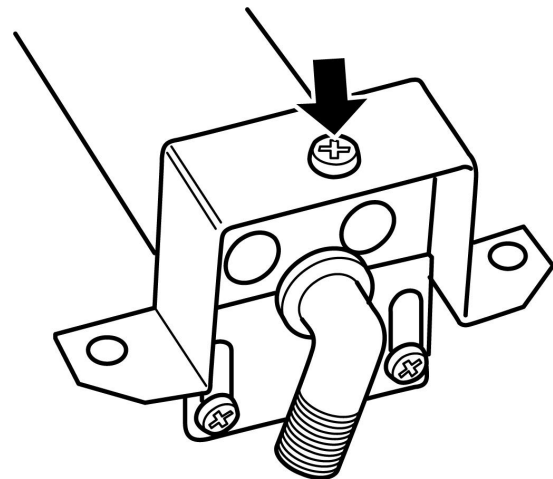

Figure 40. Main burner injector removal
(See figure 40).
2. Remove the burner clamping screw (See figure 40)